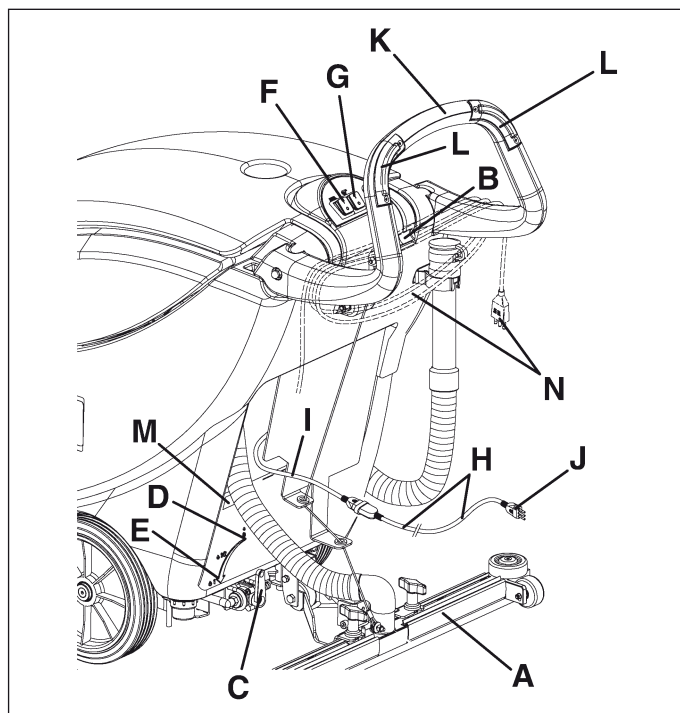

Figure 8
Connect the power supply cable (I) to the extension (H, Fig. 8) supplied. Connect the extension plug (J) to the electrical mains.
**Before connecting the machine to the electrical mains, make sure that the frequency and voltage shown in the serial number plate/technical data (M, Fig. 8) match the mains voltage.**
3. Lower the squeegee (A, Fig. 8) by pushing the lever (B) downwards.
4. Turn the solution flow control lever (C, Fig. 8) to one of the following positions, according to the type of cleaning to be carried out:
- **ECO system:** When the lever (C, Fig. 8) is in the “ECO” position (D), the machine works in a special condition of programmed water “economy” usage; as the water flow is set and constant, the machine can work with a cleaning time of 70-80 minutes [0.08 gal/min (0.3 liters/min)].
- **Variable system:** When the lever is turned to the left (variable flow), it is possible to increase the capacity up to 0.26 gal/min (1 liter/min) (E, Fig. 8).
5. Turn the switches (F and G, Fig. 8) to the “I” position.
6. While keeping both hands on the handlebar (K, Fig. 8), start the machine by pressing one or both the activation switches (L).
7. Release the switches (L, Fig. 8).
8. Turn the switches (F and G, Fig. 8) to the “0” position.
9. Disconnect the power supply cable plug (J) from the electrical mains. If necessary, roll up the power supply cable (H, Fig. 8) on the handlebar into position (N).
10. Lift the squeegee by pushing the lever (B, Fig. 8) completely upwards.